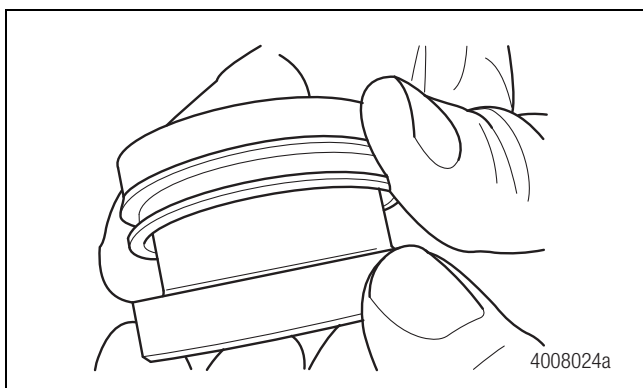

Figure 5.44
1. Place the retainer onto a suitable driver from Meritor tool MST 1000. Figure 5.44.